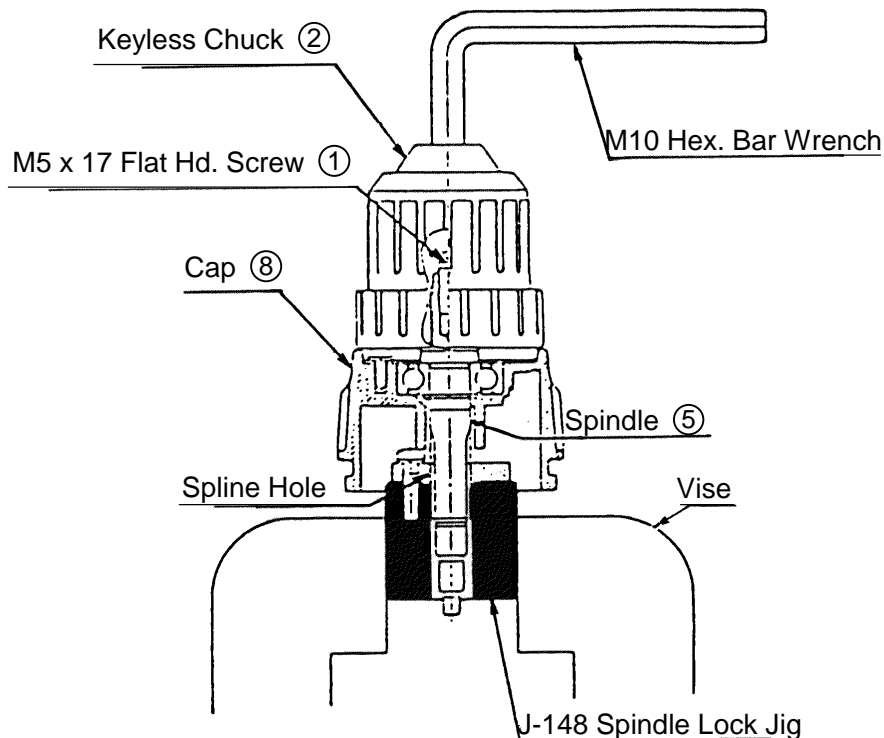

Fig. 4
Finally, as illustrated in Fig. 4, clamp an M10 Hexagon Bar Wrench in the Keyless Chuck (2), and turn it counter-clockwise to loosen and remove the Keyless Chuck.